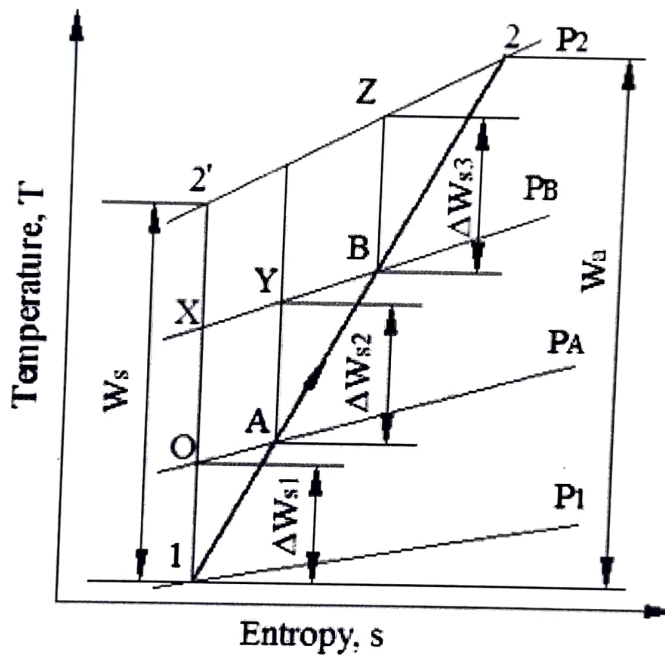

Fig. 3.4 Effect of preheat on compression process
The thermodynamic effect of multistage compression can be studied by considering three stage compressor working between inlet pressure  $p_1$  and the delivery pressure  $p_2$  as shown in the figure 3.4. The intermediate pressures are being  $p_A$  and  $p_B$ . The stage pressure ratio,  $p_r$  and the stage efficiency,  $\eta_{st}$  are assumed to be same for all stages. The process 1-2' and 1-2 are the isentropic and actual compression process respectively.
**Answer:** Consider three stage compressor working between inlet pressure  $p_1$  and the delivery pressure  $p_2$  as shown in the figure 3.4. The intermediate pressures are being  $p_A$  and  $p_B$ . The stage pressure ratio,  $p_r$  and the stage efficiency,  $\eta_{st}$  are assumed to be same for all stages. The process 1-2' and 1-2 are the isentropic and actual compression process respectively.